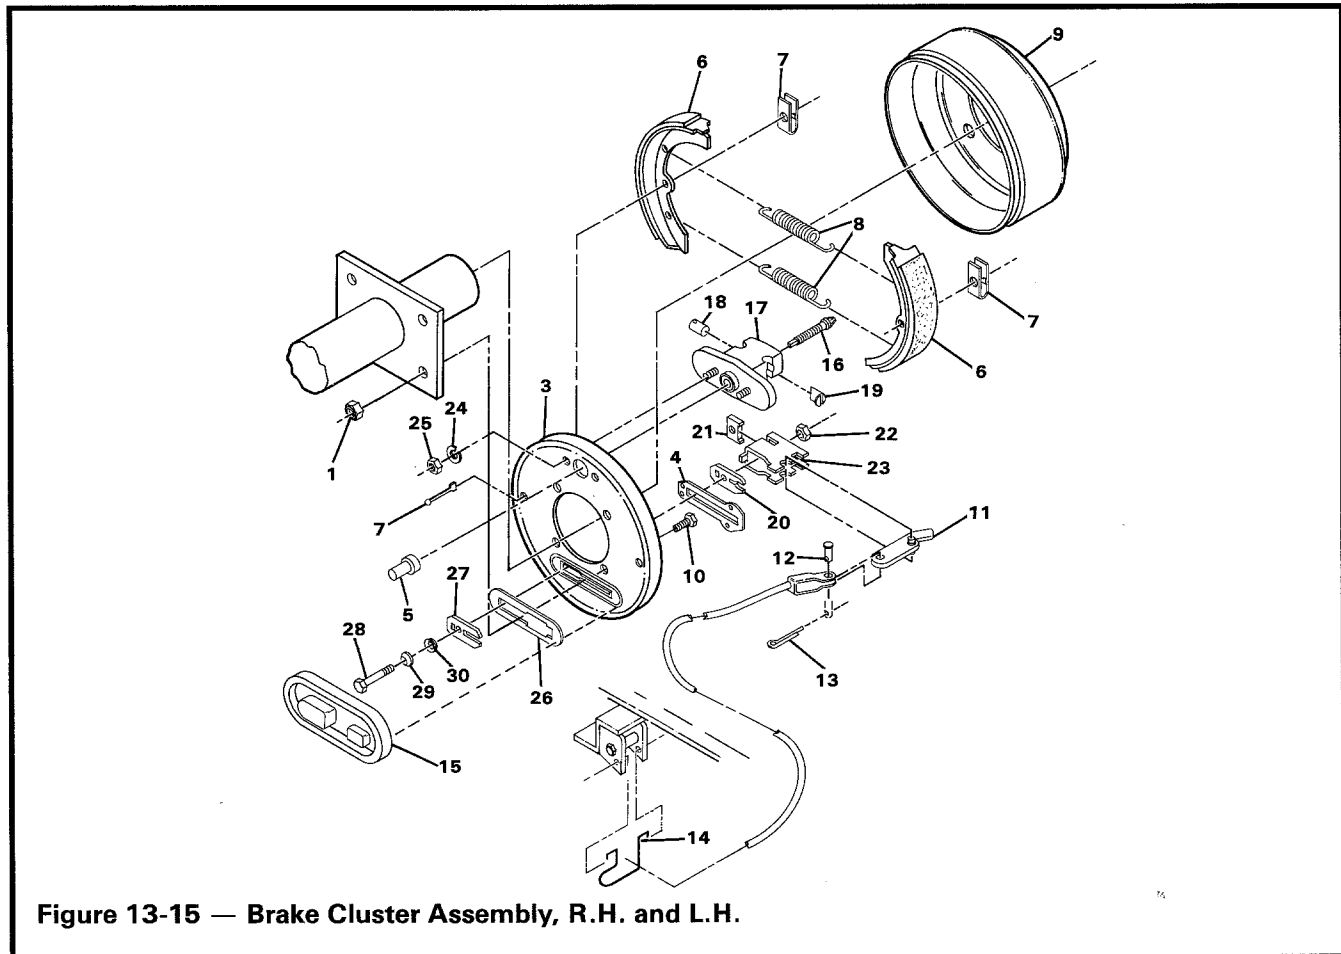

Figure 13-15 — Brake Cluster Assembly, R.H. and L.H.
1. Loosen the brake cable at the equalizer and turn the brake shoe adjusting screw (5) outward to retract the brake shoes (6) until the brake drum (9) clears the shoes (Figure 13-15).